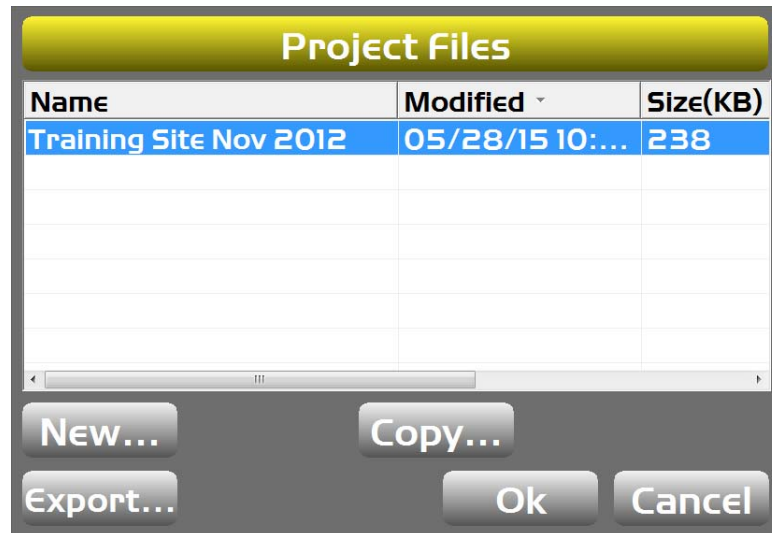

Figure 16: Project Files Screen
2. Press the Power button on the display, then tap **File ▶ Projects**. The **Project Files** screen appears (Figure 16).